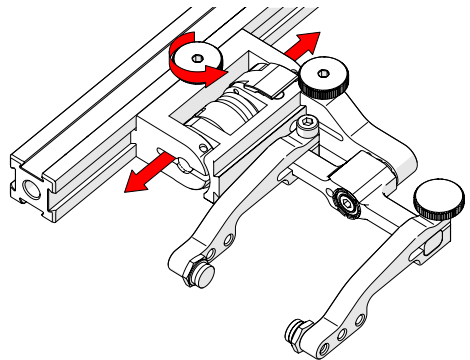

Fig. 131 - Adjust on frame bar
2. Use the probe holder adjustment knob to position the probe holder along the frame bar (Fig. 131).